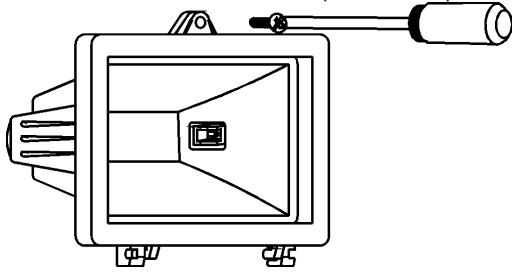

FIGURE 3
- (1) Do not touch the floodlight while it is in use or still hot. Allow it to cool (about 5 minutes) before touching it.
- (2) Do not use halogen bulb rated higher than 150watts.
- (3) Disconnect the power cord or wall switch. Unscrew retaining screw at base of lamp. This will release front surround.(FIGURE 3)